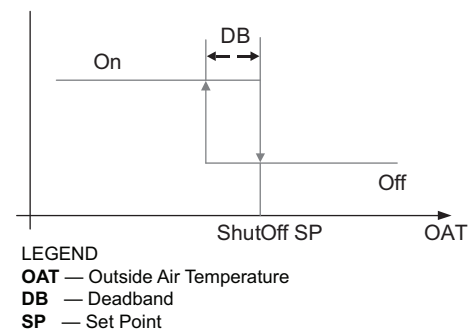

Fig. 77 — Hysteresis Settings
Hysteresis setting (DB) defaults to 2°F (–17°C). See Fig. 77.